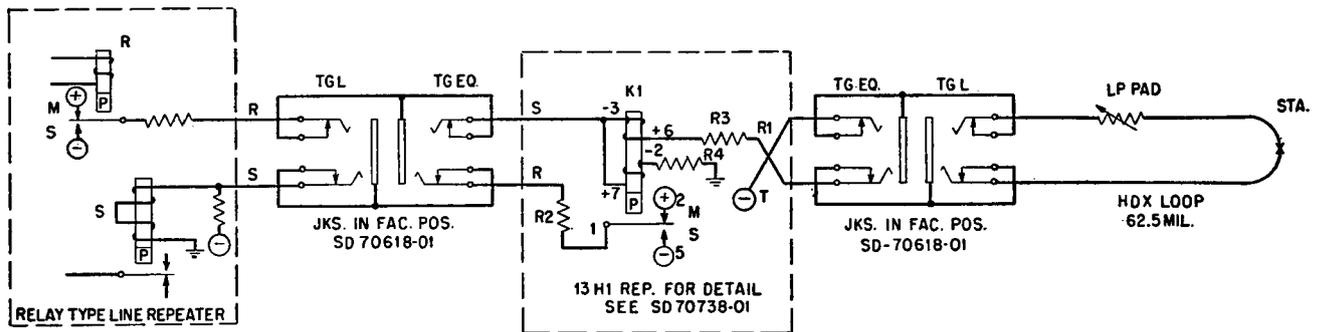

FIG. 2
2.06 Fig. 2 shows a typical half duplex arrangement. During transmission from the line repeater to the loop, polar voltages (+130-volt mark) are transmitted from the contacts of the receive relay in the line repeater to the loop equipment via the jacks in the facility position, the 3-6 winding of the loop repeater (K1) relay and returning to —130-volt telegraph battery via the loop pad and jacks in the facility position.